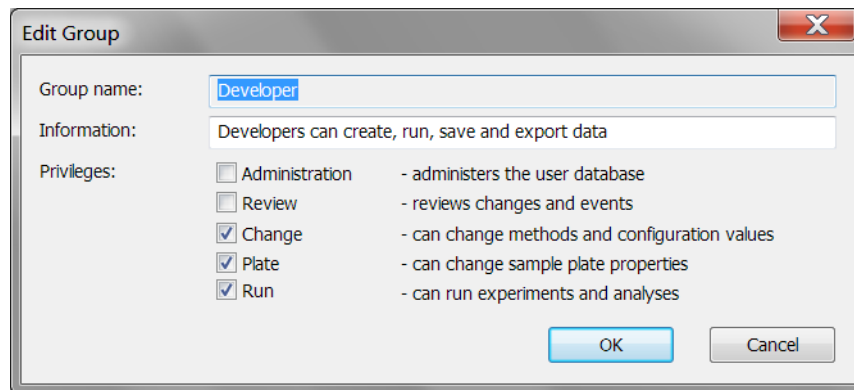

Figure B-40: Edit Group Dialog Box
1. Right-click on the group and select **Edit Group**, or double click the group. The **Edit Group** window displays (Figure B-40).